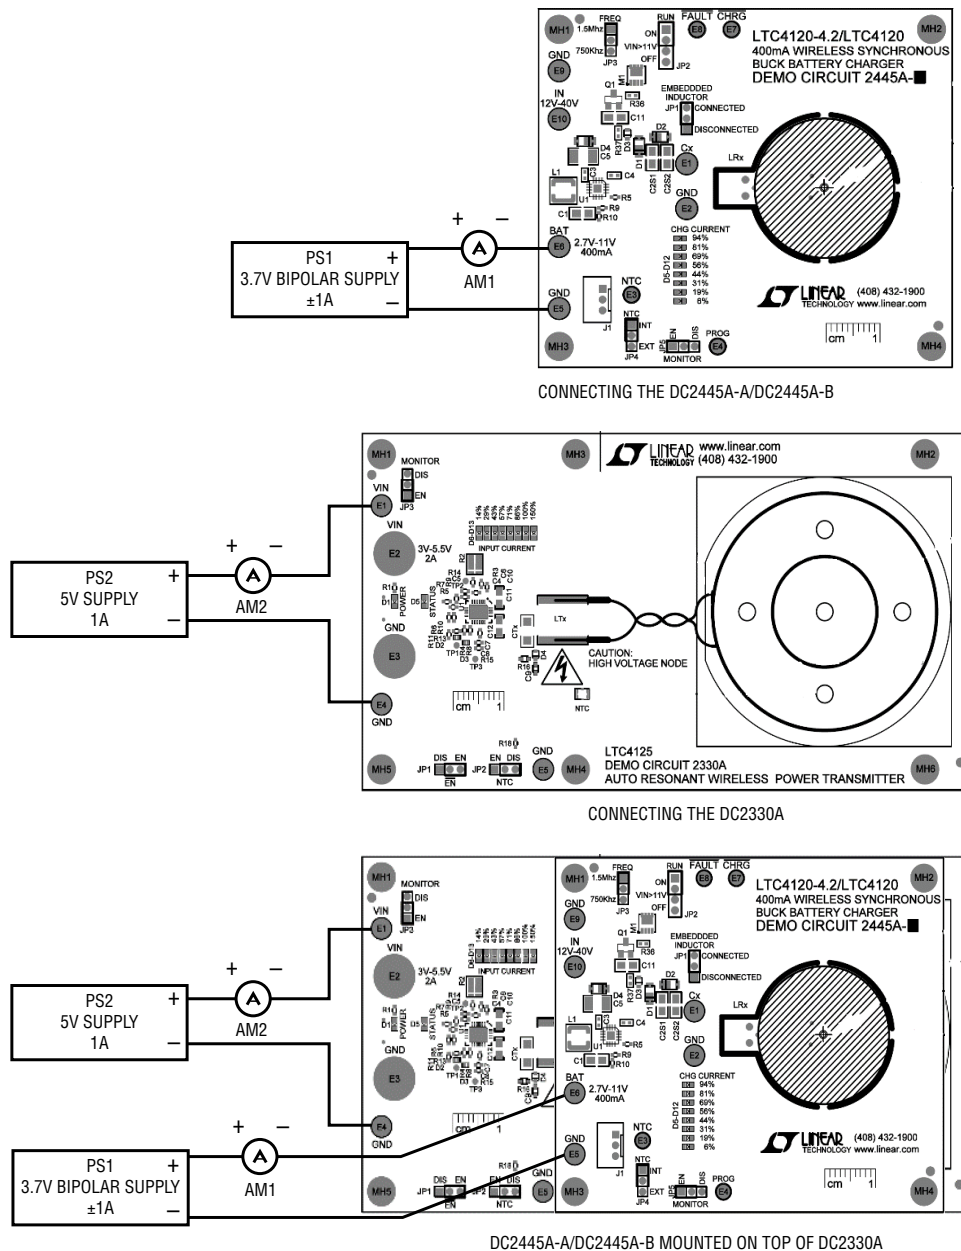

Figure 4. Equipment Setup for DC2386A-A/DC2386A-B Kit
Refer to Figure 4 for the proper measurement equipment setup and jumper settings, DC2445A mounting on DC2330A, and follow the procedure below.
1. Place the DC2445A-A/DC2445A-B board atop the DC2330A board, by aligning: (See Figure 4)